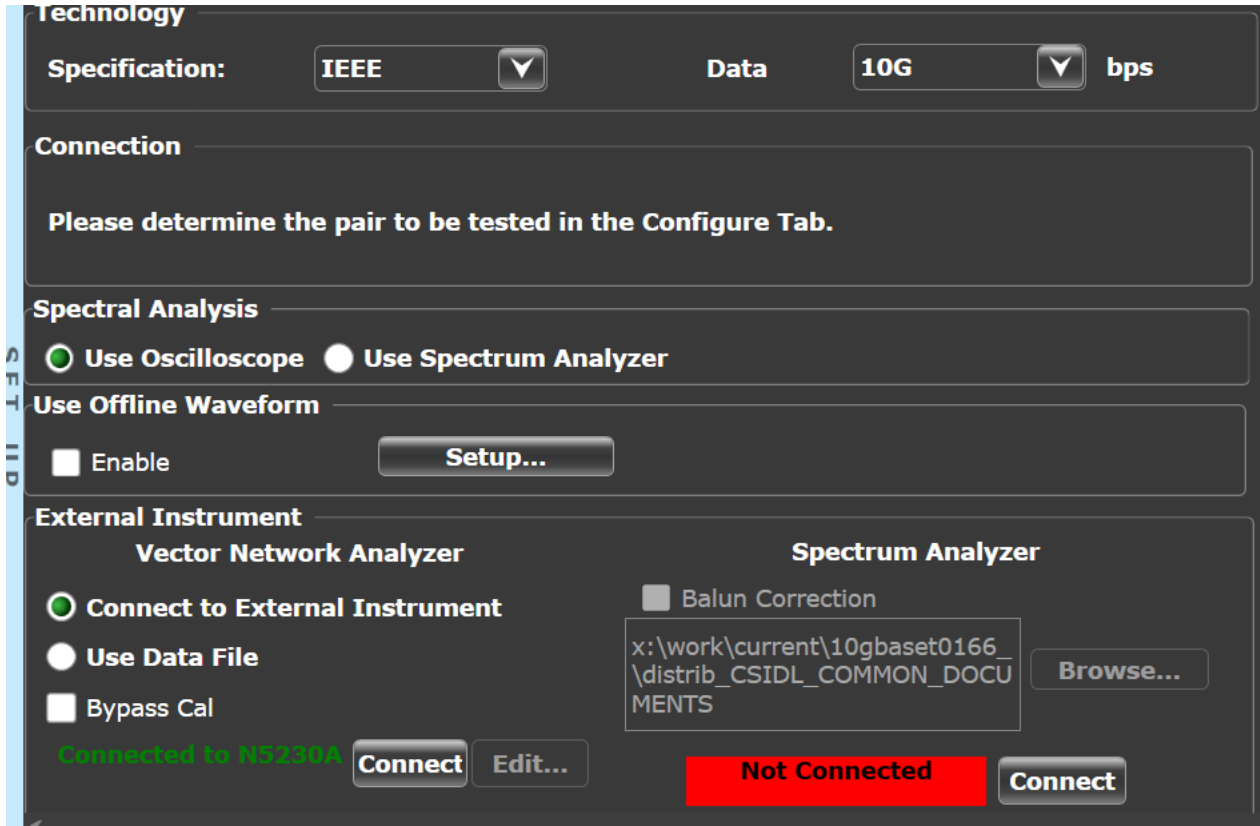

Figure 42 Connection status after the Test App detects the Vector Network Analyzer
- Once the 10GBASE-T Ethernet Test Application detects the Vector Network Analyzer, it is indicated on the **Set Up** tab as shown in Figure 42.